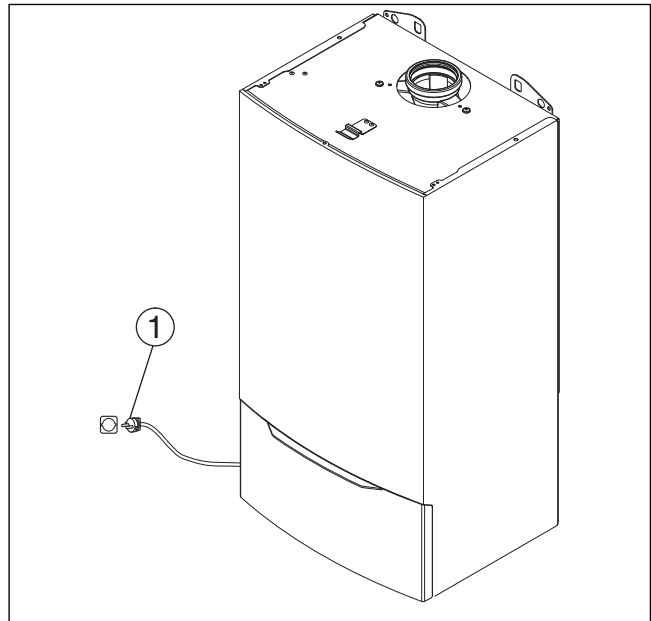

Fig. 43 Plugging in the power plug
- ▶ Insert plug (→ Fig. 43, [1]) of the main power cord into an electrical outlet.